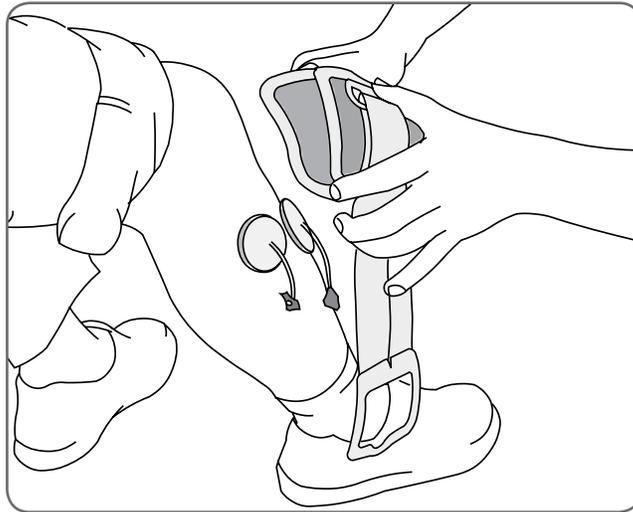

Figure 10-5: Positioning the locator below the patella.
6. Position the locator of the L300 FS Cuff below the patella, over the tibial plateau. See Figure 10-5. Make sure the L300 FS Cuff does not touch the electrode bases. The locator should fit snugly but comfortably under the inferior pole of the patella.